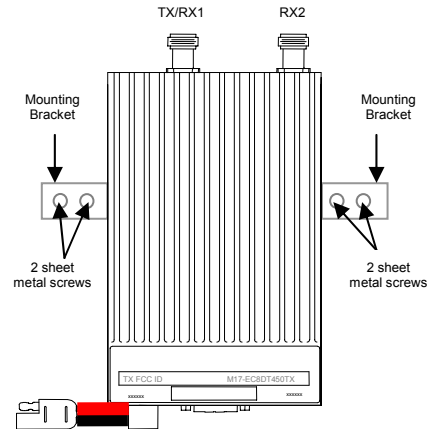

Figure 2
- Step 1** Secure the radio into the trunk compartment. Insert four (4) sheet metal screws in the radio brackets; two (2) screws on either side of the radio (see Fig. 2).